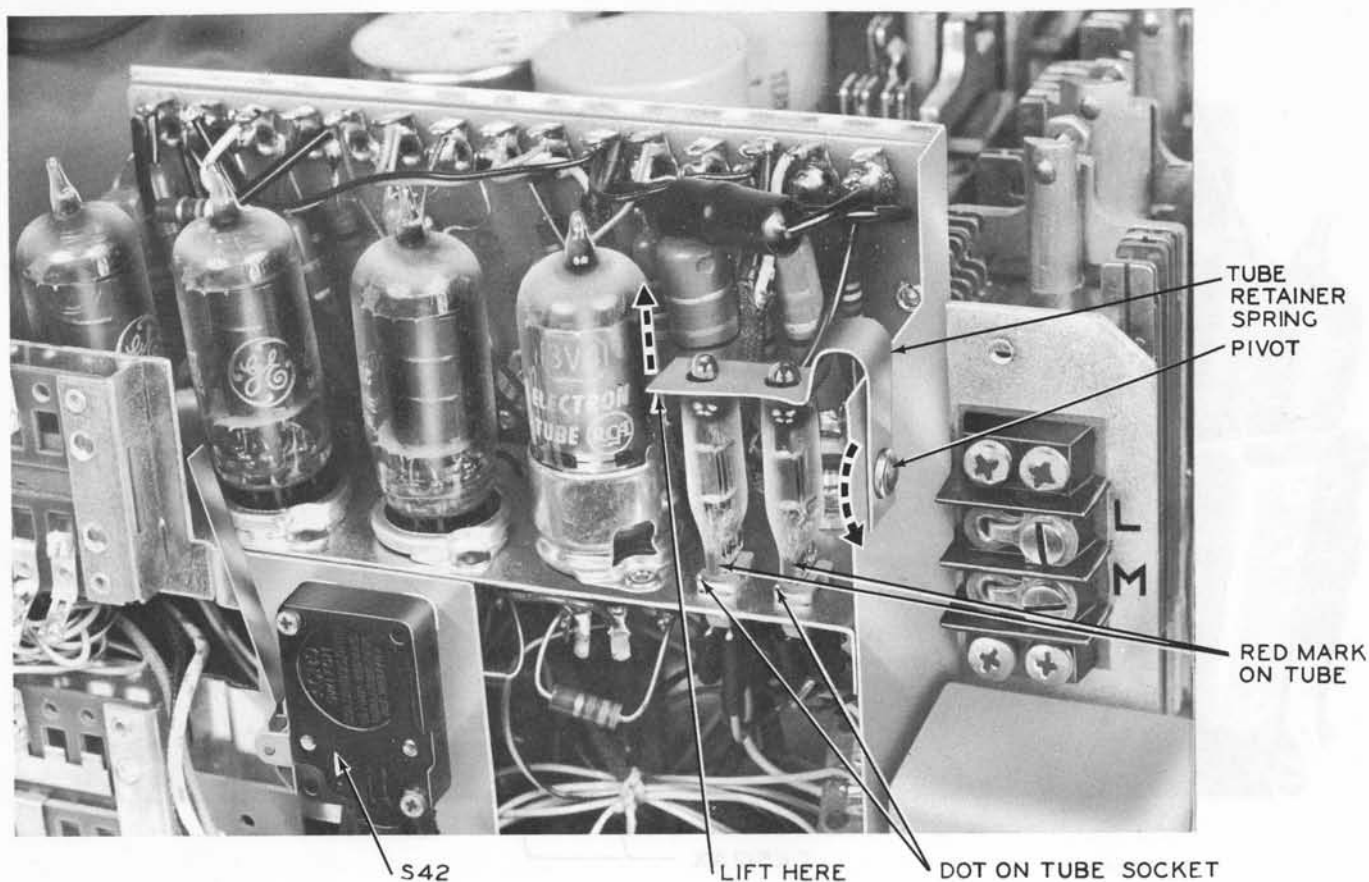

Fig. 2 — CK512AX Electron Tubes, Retainer
**3.12** To remove and replace a CK512AX electron tube (see Fig. 2), the following steps should be followed: